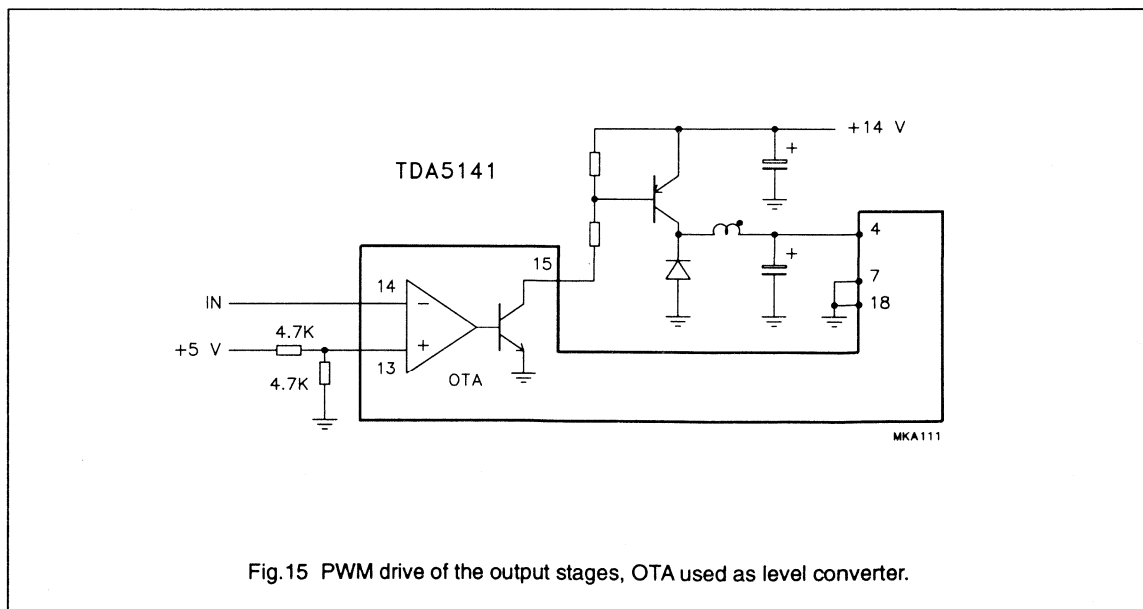

Fig.15 PWM drive of the output stages, OTA used as level converter.
- With digital or PWM control an external switching transistor is necessary. The OTA can make the level translation and drive the power transistor (see Fig.15).